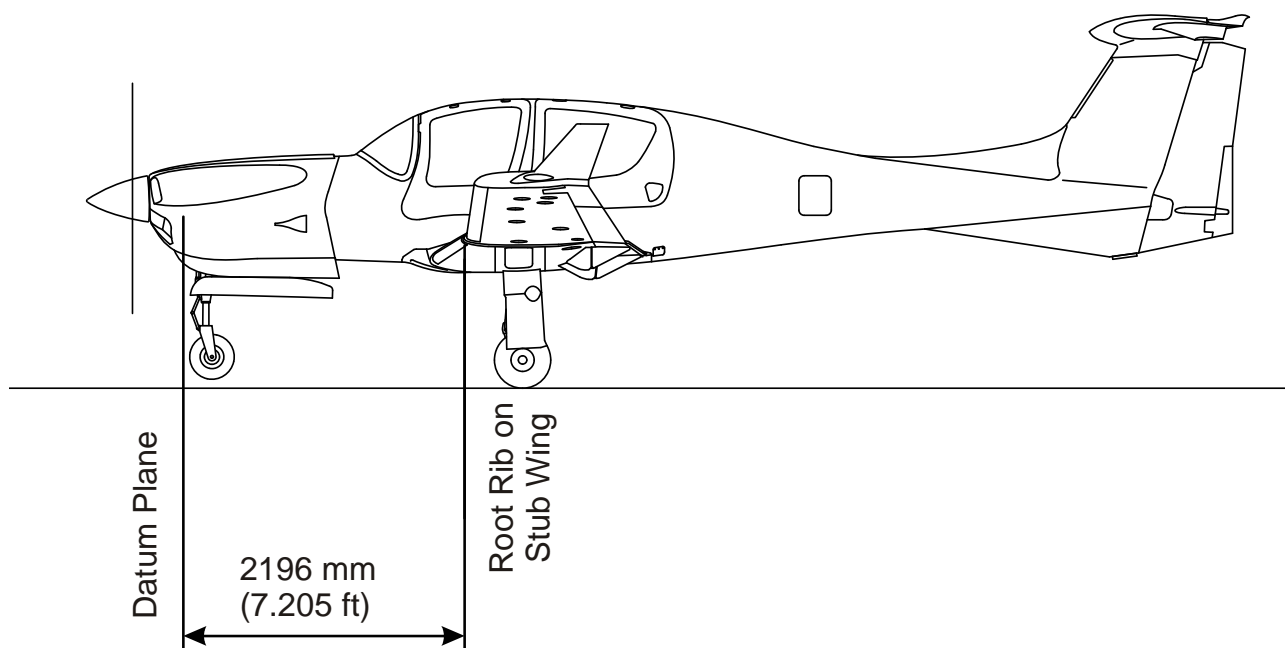

Figure 1 - Datum Plane
The Datum Plane (DP) is a plane which is normal to the airplane's longitudinal axis and in front of the nose landing gear as seen from the direction of flight. When the airplane is aligned horizontally by means of the weighing tool, the Datum Plane is vertical. The Datum Plane is located 2.196 meters (86.46 in) in front of the leading edge of the wing at the root rib. See Figure 1.